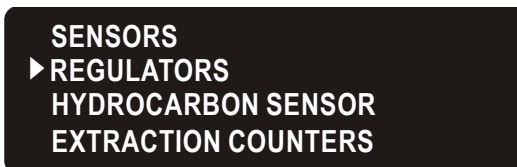

Figure B-3. Diagnostics Screen
2. On the **MENU** screen, select **DIAGNOSTICS** and press **ENTER** to display the **DIAGNOSTICS** screen (see Figure B-3).